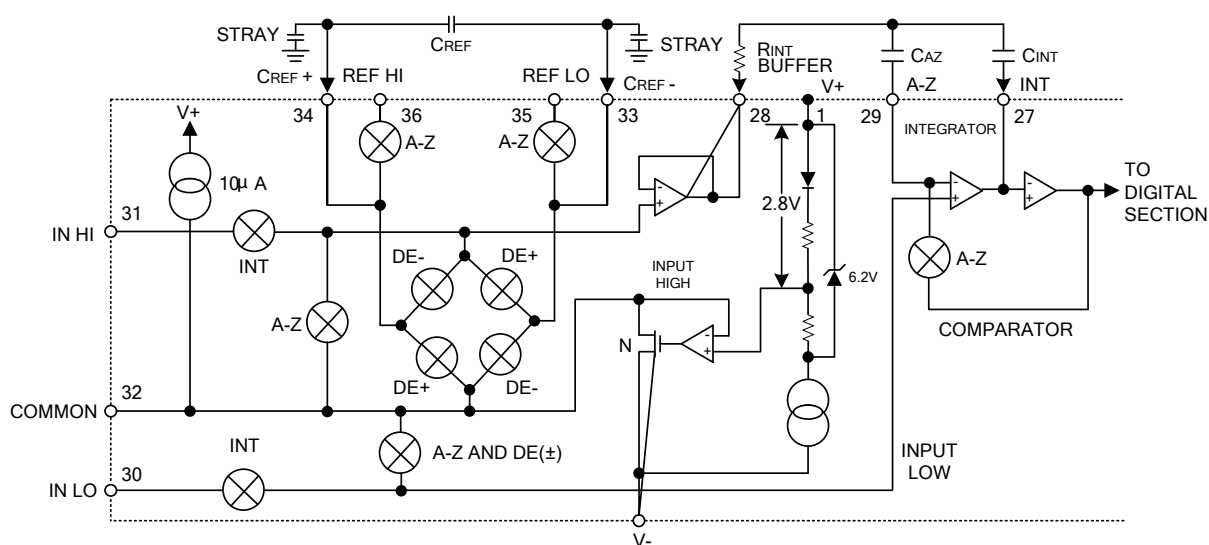

Fig.1 Analog Section
# ■ ELECTRICAL CHARACTERISTICS ( $T_A=25^{\circ}\text{C}$ , $f_{\text{CLOCK}}=48\text{kHz}$ , measured by the circuit of Fig.1)
Fig.1 shows the Analog Section for the UTC **7106**. Each measurement cycle is divided into three phases. They are (1) auto-zero (A-Z), (2) signal integrate (INT) and (3) de-integrate (DE).